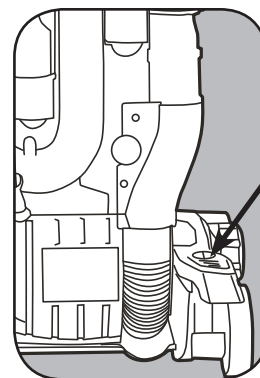

Fig. 2
1. To turn the vacuum on, push the power pedal on the right side of the vacuum nozzle from the user's perspective (Fig. 2).